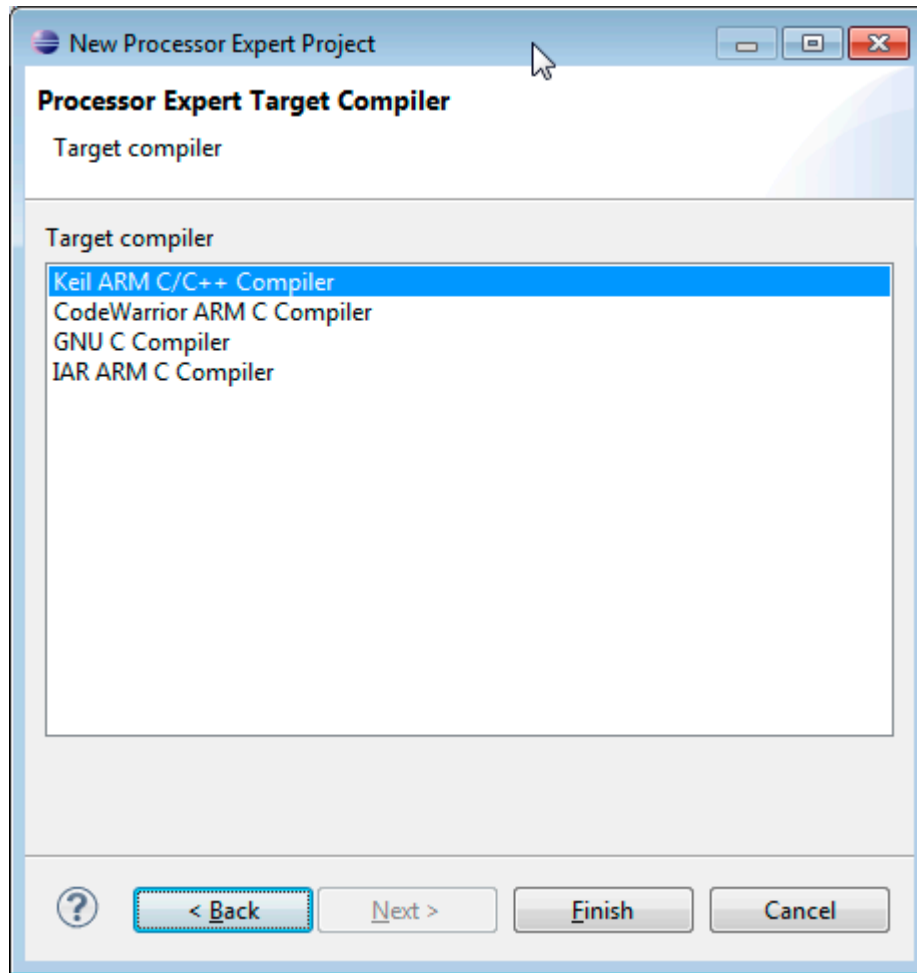

Figure 4. New Processor Expert Project Wizard - Processor Expert Target Compiler Screen
8. Click **Next** to display the **Processor Expert Target Compiler** screen shown in Figure 4. This screen lets you select the target C compiler for which the project will generate code (the target compiler can be later changed in the 'Build options' tab of the CPU component).